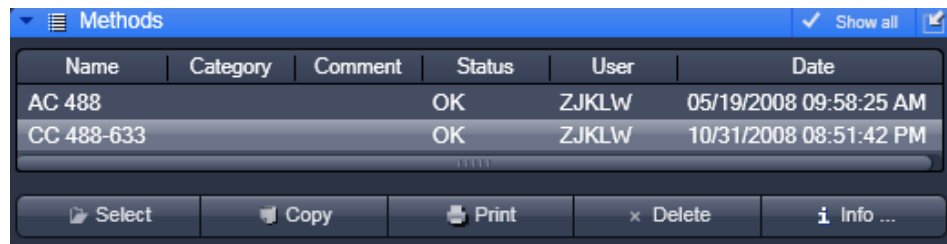

Fig. 7 Methods tool box
- This opens the **Method** tool box (see Fig. 7). Another click will close the window again. Scroll tabs will allow to view all the contents. In the undocked state the window size can be accommodated to fit the requirements by pulling the window sites.